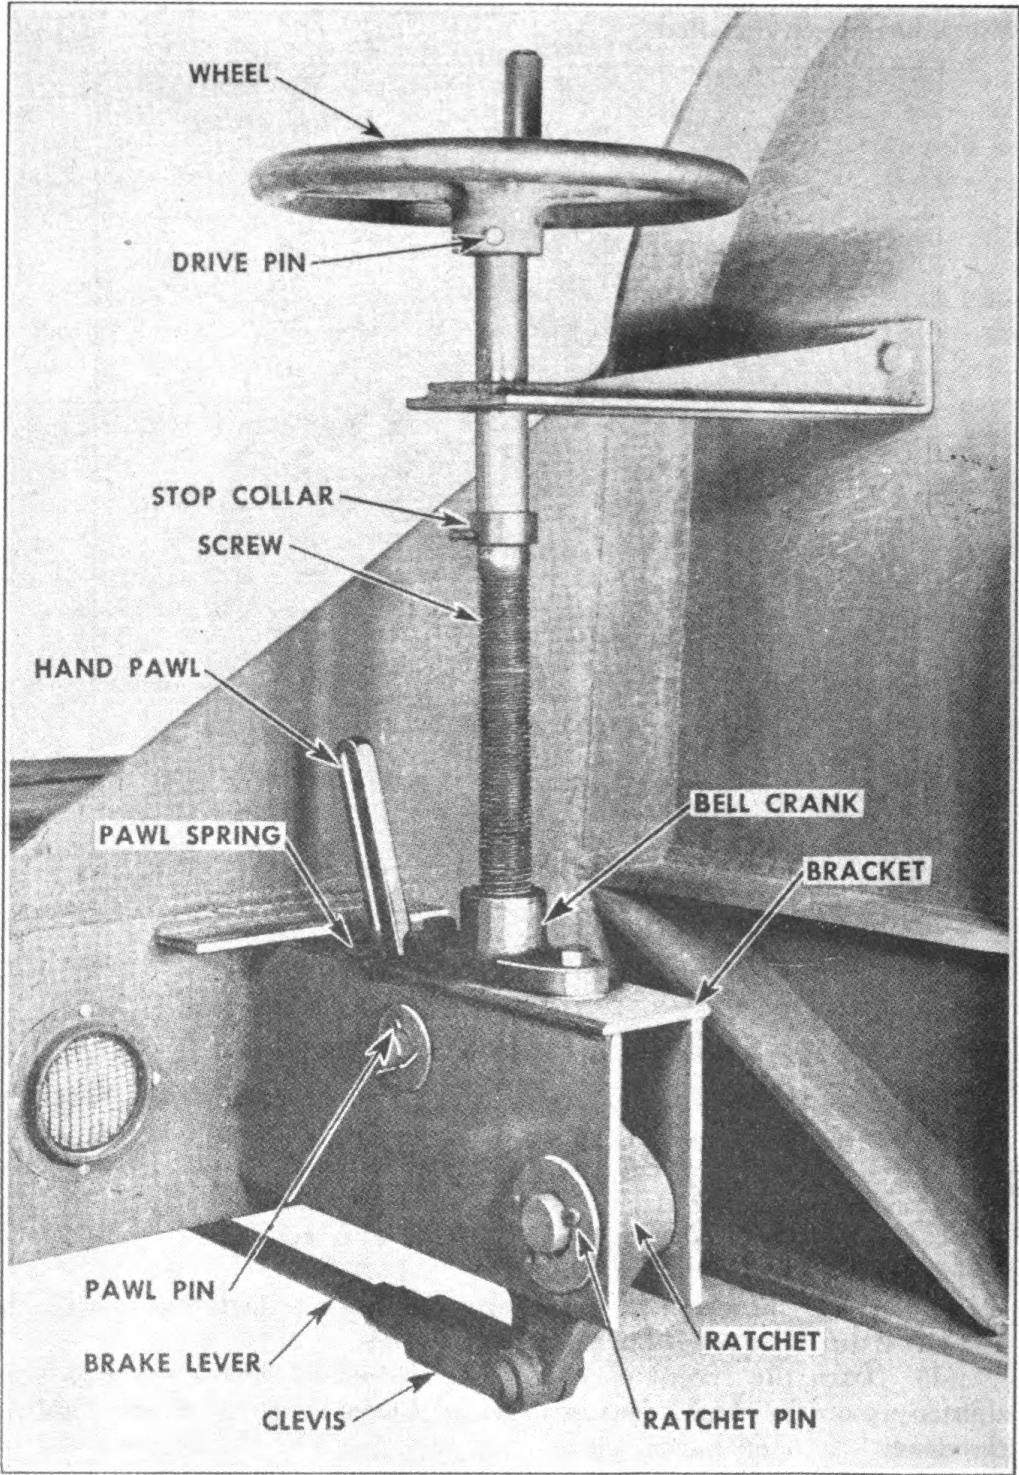

FIGURE 22. HAND PARKING BRAKE
(6) Tighten lock nuts on the anchor pins while holding anchor pins firmly in position with a wrench.
11. **HAND PARKING BRAKE REPLACEMENT** (Fig. 22).—*a.* The hand parking brake is located on the right side, at the drop in frame. Turning the wheel in a clockwise direction applies the brakes.
b. Replacing the wheel.—(1) Drive out the drive pin and tap handle off screw.
c. Replacing screw.—(1) Loosen set screw in stop collar and turn wheel in a counter-clockwise direction until screw is turned out of bell crank.
(1) Shorten brake rod at hand brake ratchet as shown in Figure 22.